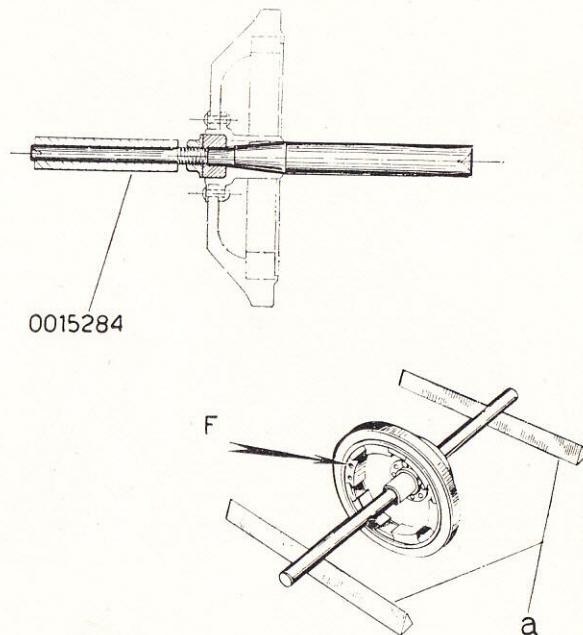

Fig. 77.
7. Check diameters for concentricity again by means of mandrel 0015284 and dial gauge (see Fig. 77). Use the same mandrel to check the rotor for balance on the two rails "a" shown in said figure. If necessary, balance the rotor properly by drilling some blind holes on the face of the pole piece (see "F" in Fig. 77).